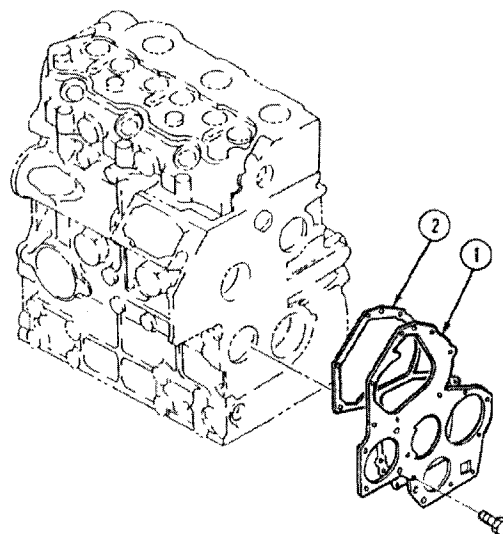

Figure 83
4. Remove the engine front plate and gasket, Figure 83.